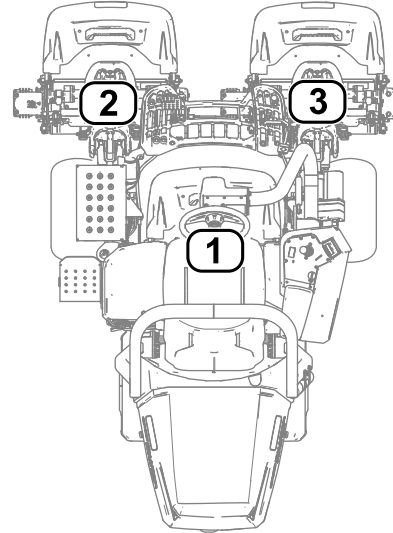

Figure 31
- 1 refers to the center cutting unit (Figure 31)
- 2 refers to the front left cutting unit (Figure 31)
- 3 refers to the front right cutting unit (Figure 31)